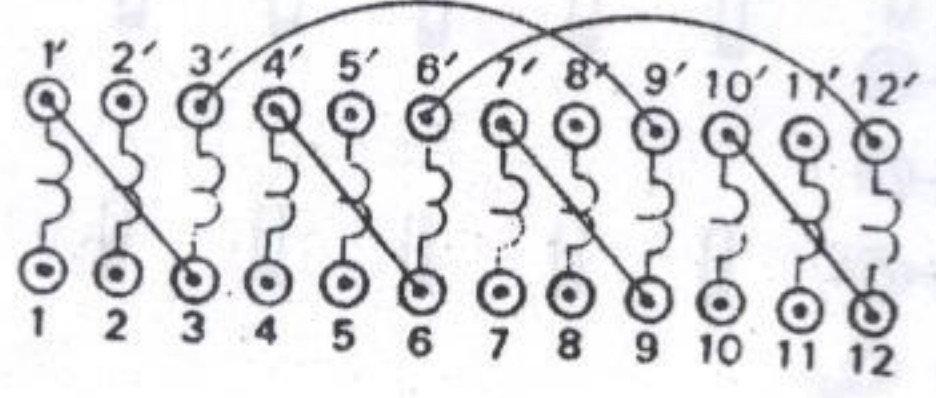

FIGURE 11: SHUNT MOTOR FIELD SPEED CONTROL
1. Connect the Universal Machine to operate as a shunt motor as shown in Figure 11. Set the field rheostat to the minimum resistance, fully counter-clockwise, position.